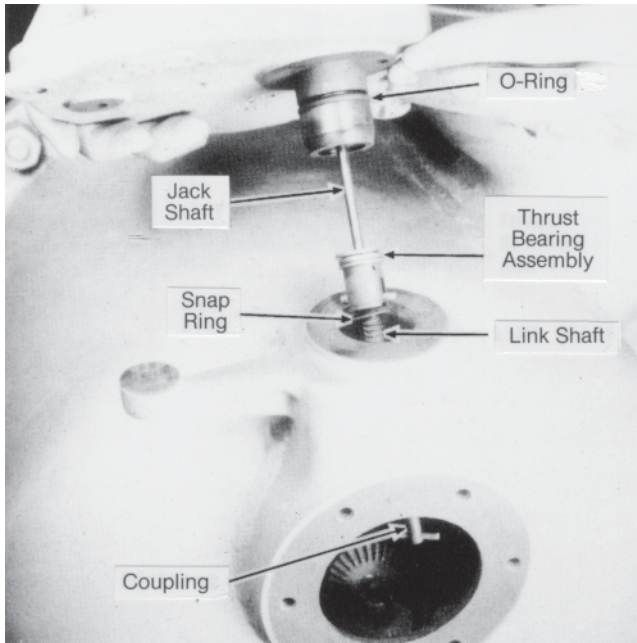

Figure 13 –Remove Drive Shafts and Coupling
5. Lift up on base plate to withdraw drive shafts and coupling, Figure 13.
- Inspect thrust bearing assembly, Figure 13. Replace plates if worn, do not reverse. Check ball retainer for roughness. Reuse if it runs smooth.
8. The O-Ring, Figure 13, should be replaced if fluid leaks from where the base plate joins the meter case. The jackshaft, link shaft, coupling, and base plate parts can be replaced in reverse of the disassembly order if the meter is not to be completely taken apart.